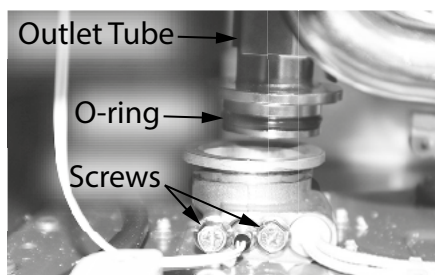

Figure 7 - O-ring location
- 24** Install the new (21.8 x 2.4) O-ring as shown in Figure 7.